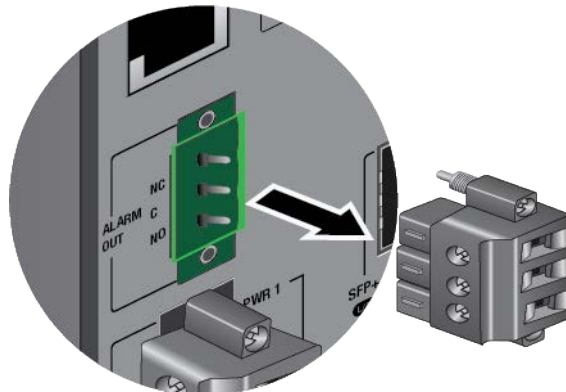

Figure 42. Removing the Alarm Out Plug
4. Remove the Alarm Out plug. Refer to Figure 42.